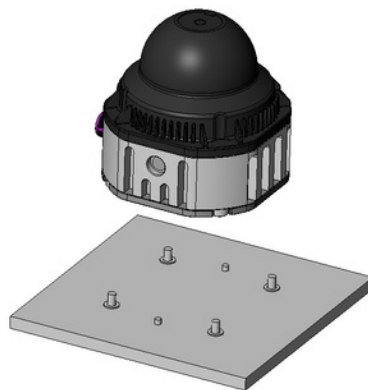

Figure 4 LiDAR Structure Installation Diagram
The installation diagram of the LiDAR is shown in Figure 4 .
- a) The bracket and LiDAR are positioned as shown in Figure 4; it is recommended to use the positioning posts on the bottom of the LiDAR for alignment;